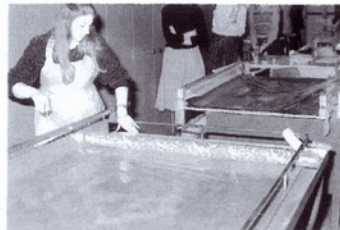

Figure 6.2
1. The prepared object is spread out on the supporting film as squarely and neatly as possible on the washing surface, which should be in a horizontal position (see Figure 6.2).